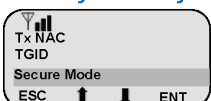

Figure 13
13. Highlight "Secure Mode" and press "ENT", highlight "Clear" and press "ENT". (See Figure 13)